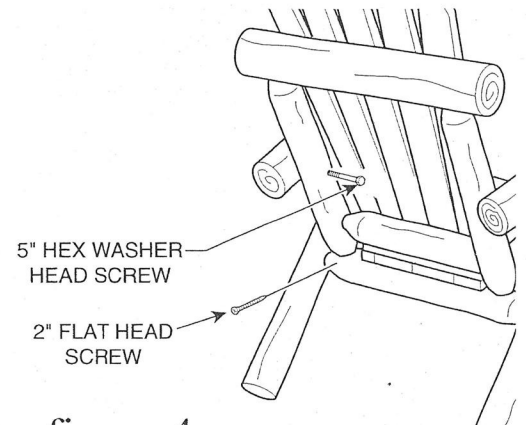

figure 4
STEP 4 Set chair in upright position on a level surface and when legs are in proper position, bring ARM in against UP-RIGHT. Tighten the preinstalled lag screws into the pilot hole in the arm with a wrench or socket. Secure doweled joints in place with screws perpendicular to the doweled ends as shown in figure 4. Repeat procedure for other side.